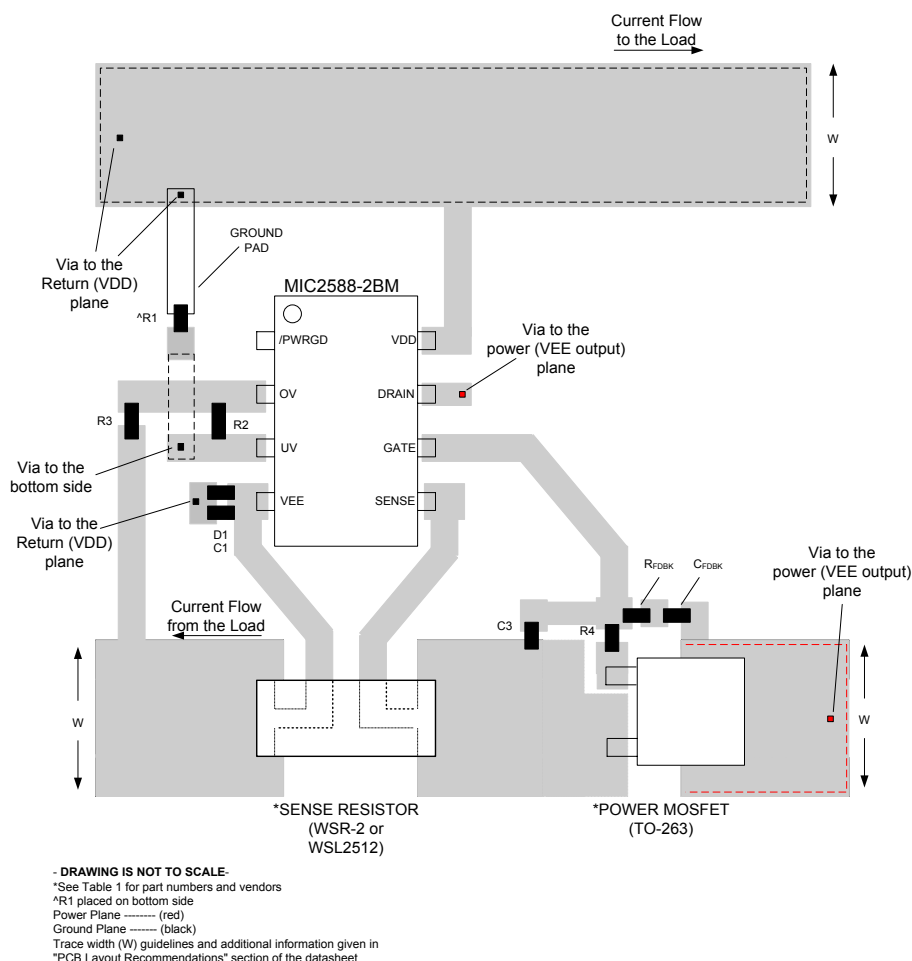

Figure 9. Recommended PCB Layout for Sense Resistor, Power MOSFET, Overvoltage/Undervoltage Resistive Divider Network, and Timer Capacitors
Figure 9 is a suggested PCB layout diagram for the MIC2588/MIC2594. Many hot swap applications will require load currents of several amperes. Therefore, the power (V_{EE} and Return) trace widths (W) need to be wide enough to allow the current